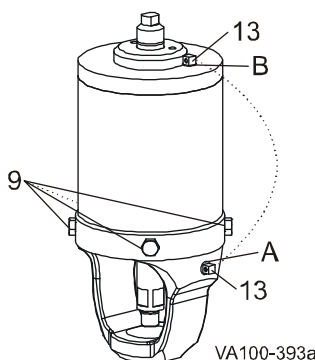

Figure 48: Cap Screws and Vent Plug
7. Install the piston/spring assembly in the actuator cylinder and assemble them with cap screws (Figure 48, item 9).
8. Reverse the vent plug (Figure 48, item 13) as follows:
Air-to-Raise Actuator: The vent plug must be located on TOP of the actuator in Port B (Figure 48, item B).
Air-to-Lower Actuator: The vent plug must be located on the SIDE of the yoke in Port A (Figure 48, item A).